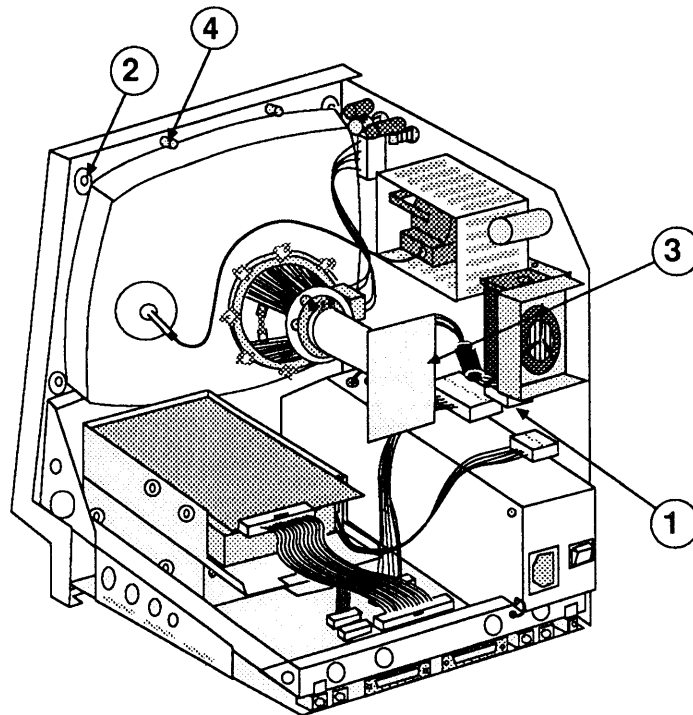

FIGURE 25
4. Carefully pull the video board (Figure 25, #3) off the neck of the CRT.
5. Disconnect the video board connector (Figure 25, #1) from the analog board.
6. Remove the Torx screw holding the video ground wire to the upper-left CRT mounting bracket (Figure 25, #2).
3. Place the video ground wire tab over the upper-left CRT mounting bracket and replace the Torx screw (Figure 25, #2). Be sure the ground wire is routed away from the case screw holder (Figure 25, #4).
4. Reconnect the video board connector (Figure 25, #1) to the analog board.
5. Reconnect the video board (Figure 25, #3) to the neck of the CRT. It fits only one way.